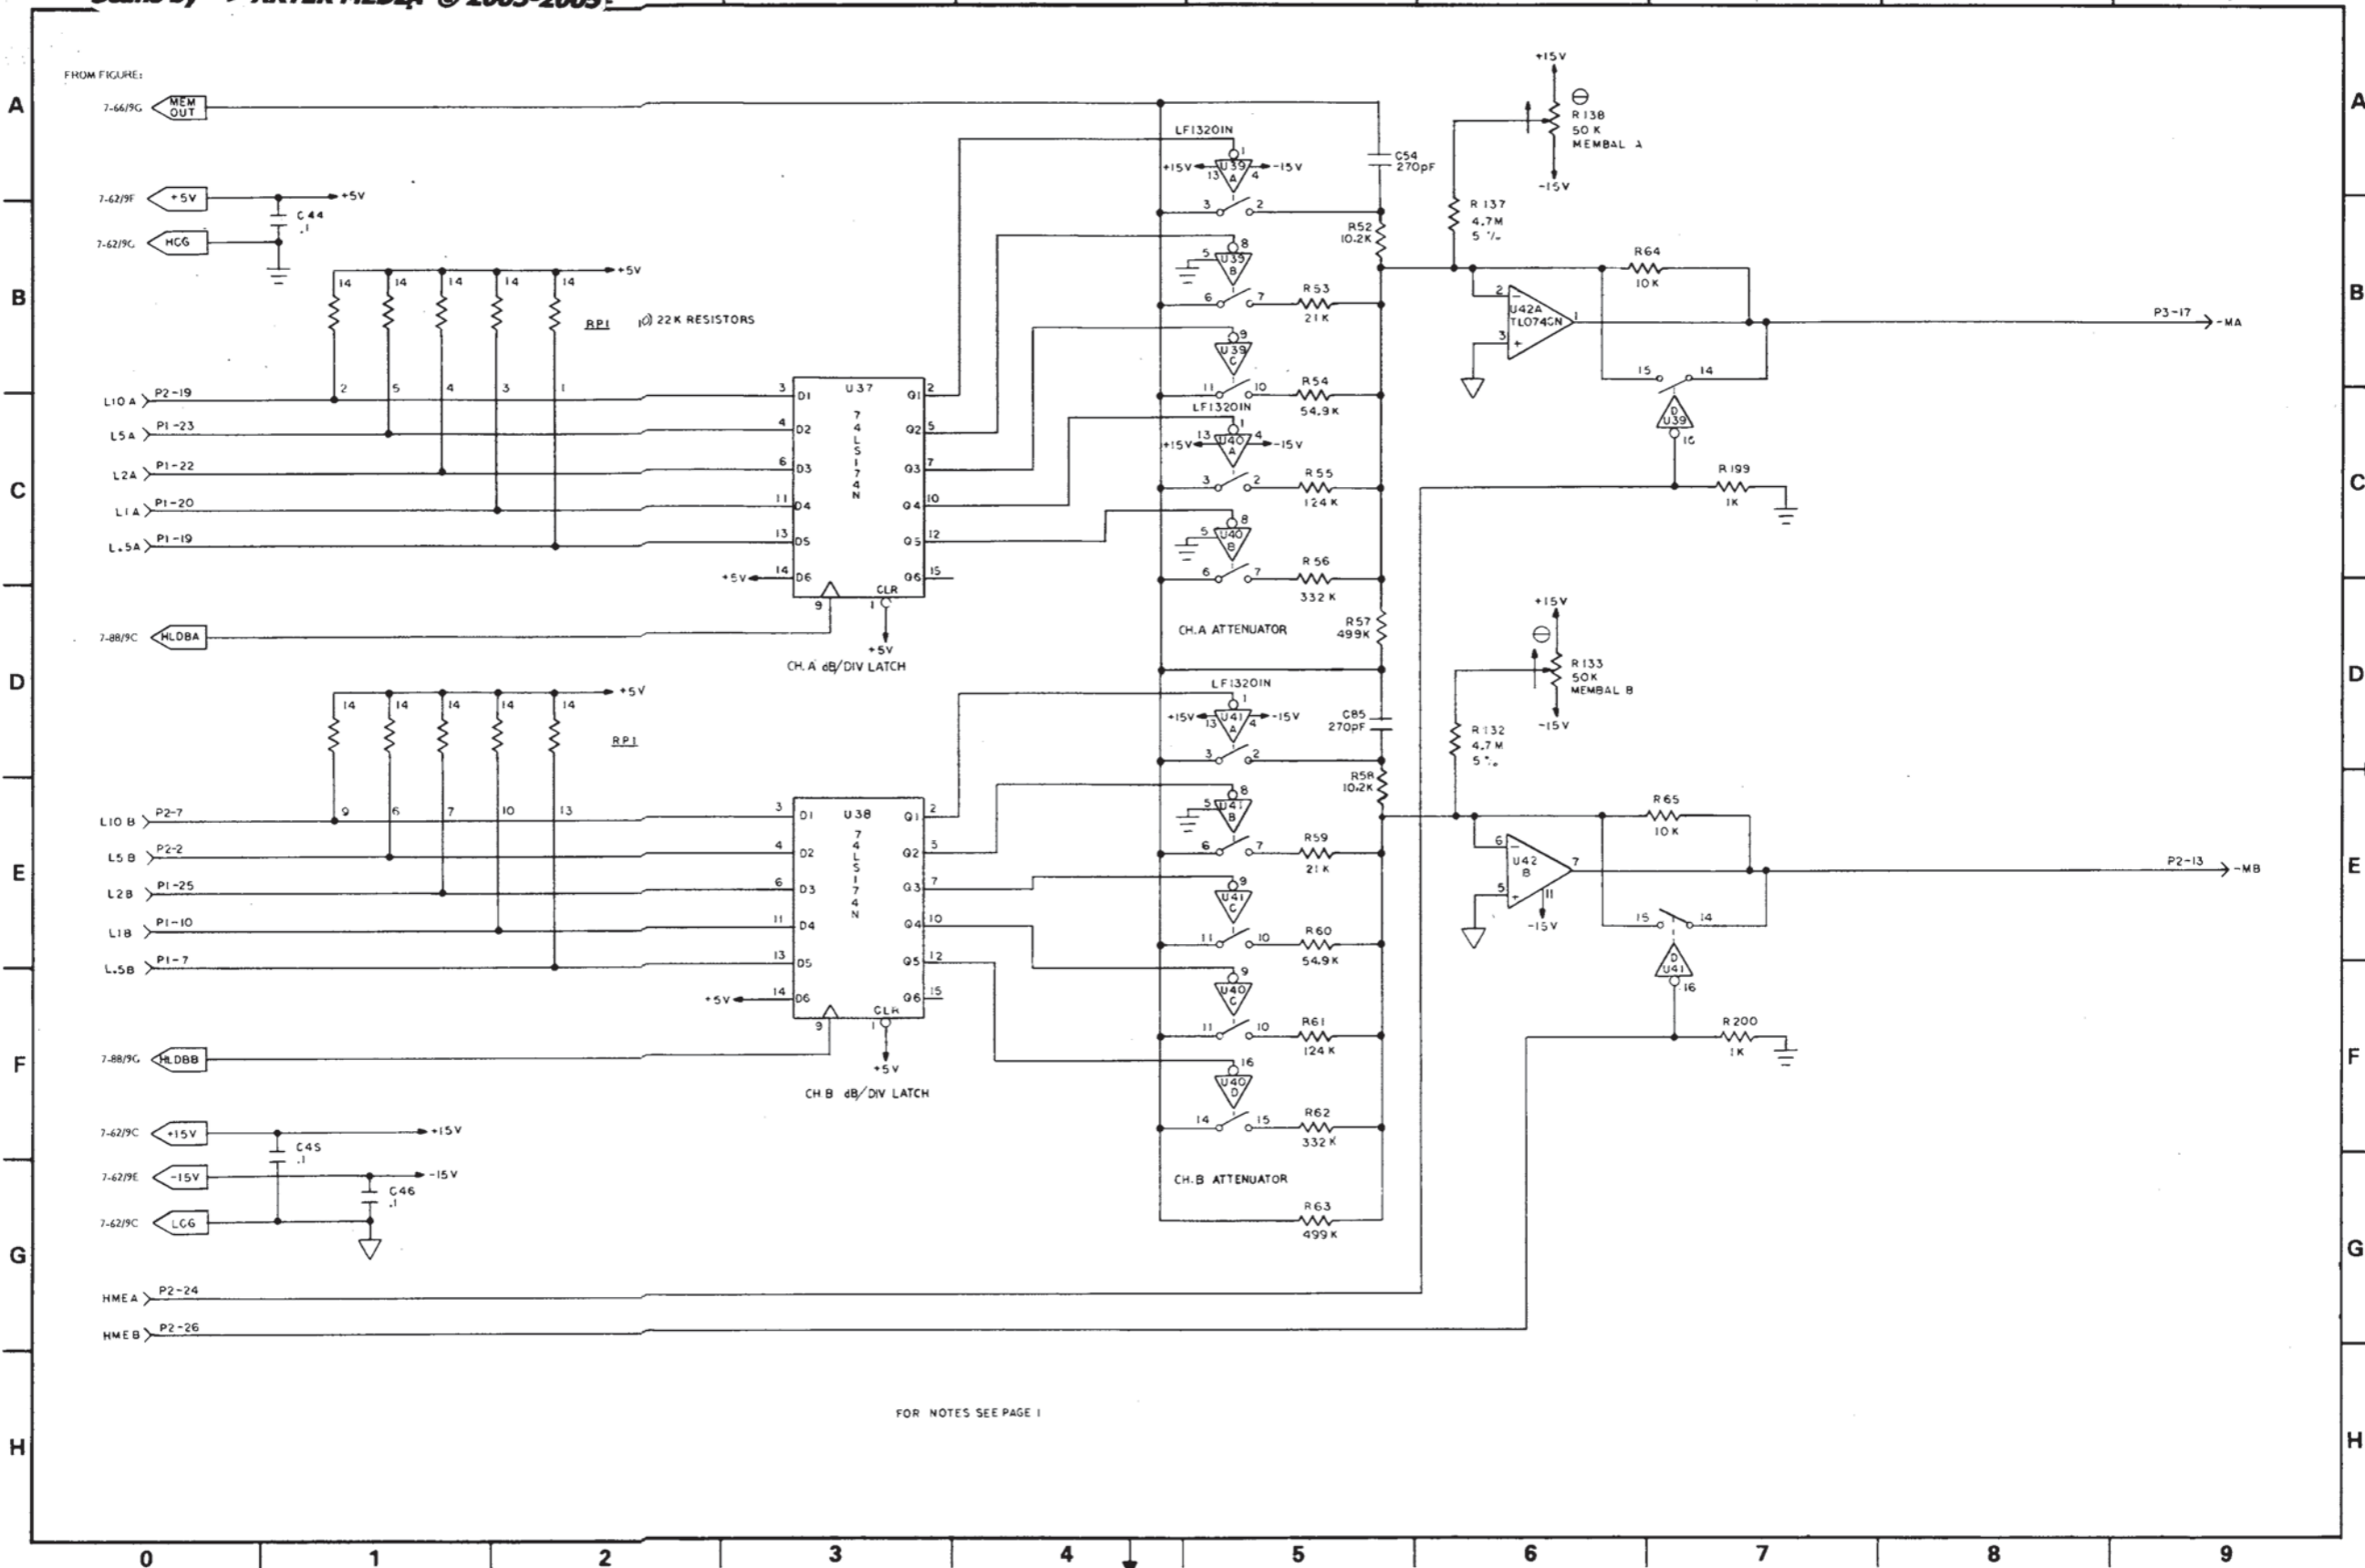

Figure 7-68. Digital (A2) PCB Sensitivity Storage Circuit Schematic Diagram
This circuit performs the following three functions: (1) it memorizes the dB PER DIVISION switch setting(s) at which the vertical data is stored, (2) it attenuates the memory output (MEM OUT) signal by exactly the same amount as the memory input signal was amplified by the dB per division gain circuit, and (3) it effectively reduces the memory output signal to zero when the MEMORY OFF switch is selected. The circuitry for accomplishing these three functions is identical for Channels A and B. In the following paragraphs, the Channel A circuits are described. The schematic for this circuit is shown in Figure 7-68, and the parts locator diagram is shown in Figure 7-69.